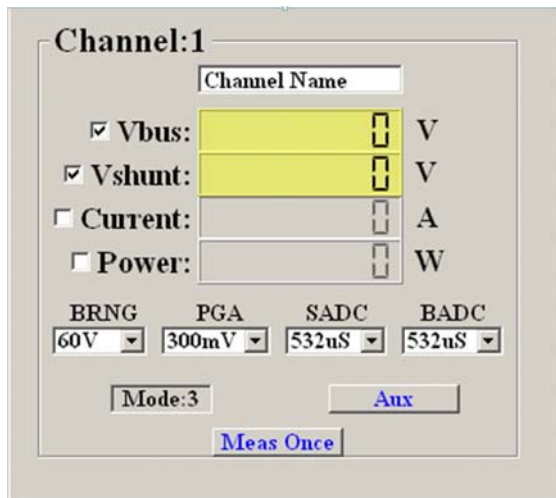

FIGURE 4. SINGLE DPM INTERFACE
- To start collecting data, press the “Start Data Collecting” button located to the left of the “Connect to Device” button at the bottom of the screen. Once pressed, the color of the text and verbiage of the button will change to “Stop Data Collecting”. The default state of the software reads each DPM for shunt and bus voltages. To change the read settings of the DPM, toggle the check box/label next to each numerical read out. The backlight of the display will toggle between yellow and gray. A backlight of yellow means a channel is enabled. A change in the functionality of the DPM will change the mode value for the respective channel. The mode of each DPM is displayed in the lower left hand corner of each channel's display. Figure 4 represents a zoomed in view of a single DPM interface.
- The settings of all channels should be finalized prior to invoking the Save Data feature. The user has the option of uniquely naming each channel and having the channel name be passed to the column name of each respective data file. Changing the field named "Channel Name" in Figure 4 will change the name of the column data.